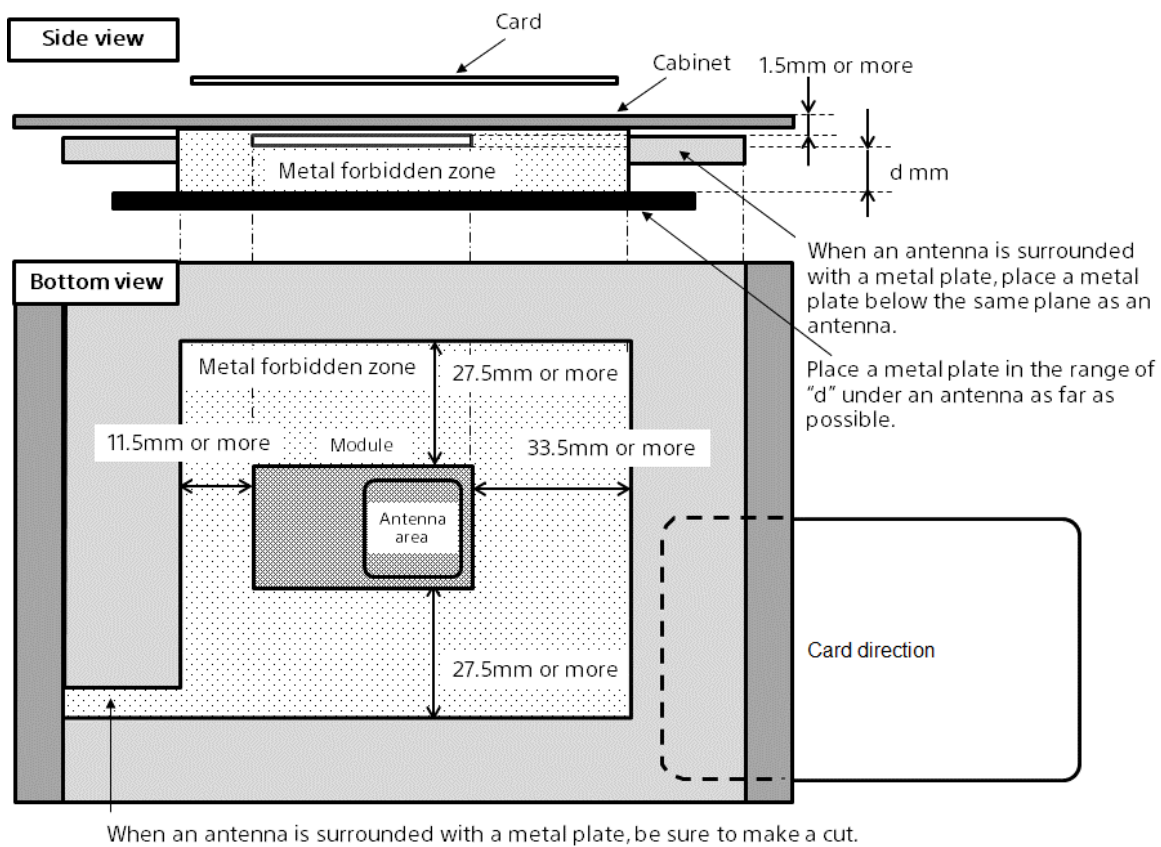

Figure A-1: Installation requirements
- 2) Do not place any metal in the forbidden zone (represented by the dot-meshed area in Figure A-1) secured around the module. Specifically, communication performance undoubtedly deteriorates if any plate-like metal is put near the module.